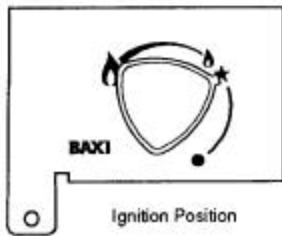

Fig. 23
2. Check that the electrode is sparking to the burner (Fig. 21) when the control knob is pushed in and rotated anticlockwise passed the ignition position (★) (Fig. 23).